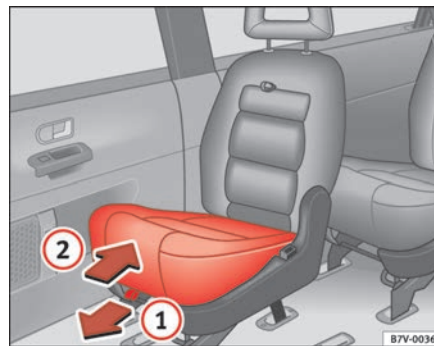

Fig. 41 Using the integrated child seat
- Pull the loop to the front in the direction of the arrow ⇒ fig. 41
- Push the seat cushion in direction of the arrow ② until it engages in position.